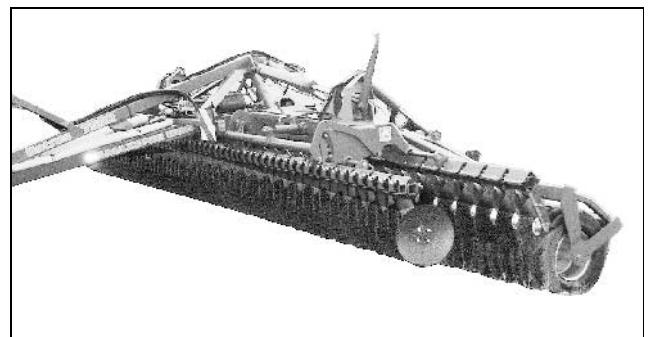

Fig. 40
- Completely lift both disc rows (Fig. 40).